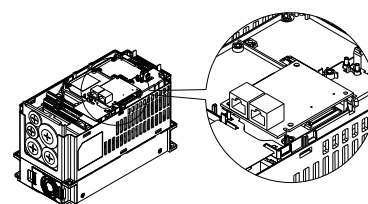

Figure 6
- Twist and open the other card clip to remove the PCB (see Figure 6).